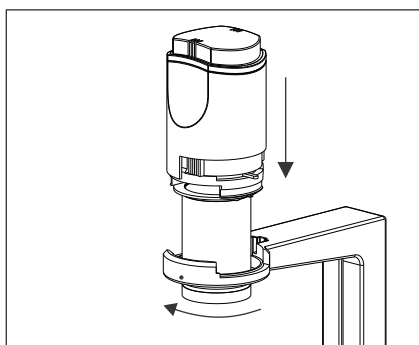

Fig. 8.1
1. Insert the illuminator into the arm opening and rotate the illuminator 90°clockwise so that the letters "NA 0.30" faces directly in front . See fig 8.1